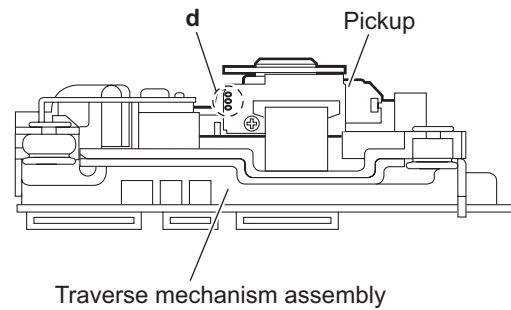

Fig.4
3.2.4 Removing the DVD module board (See Figs.4 and 5)
- (1) From the side of the traverse mechanism assembly, solder the short land sections **d** on the pickup. (See Fig.4.)
- Solder the short land sections **d** on the pickup before disconnecting the card wire from the connector **CN101** on the DVD module board. If the card wire is disconnected without attaching solder, the pickup may be destroyed by static electricity. (See Figs.4 and 5.)
- When attaching the DVD module board, be sure to remove solders from the short land sections **d** after connecting the card wire to the connector **CN101** on the DVD module board. (See Figs.4 and 5.)
3.2.5 Removing the pickup (See Figs.4,6 to 8)
- From the side of the traverse mechanism assembly, solder the short land sections **d** on the pickup. (See Fig.4.)
- Solder the short land sections **d** on the pickup before disconnecting the card wire from the connector on the pickup. If the card wire is disconnected without attaching solder, the pickup may be destroyed by static electricity. (See Figs.4 and 6.)
- When attaching the pickup, be sure to remove solders from the short land sections **d** after connecting the card wire to the connector on the pickup. (See Figs.4 and 6.)
3.2.6 Attaching the pickup (See Figs.4,6 to 9)
- (4) Remove solders from the short land sections **d** after connecting the card wire to the connector on the pickup. (See Figs.4 and 6.)